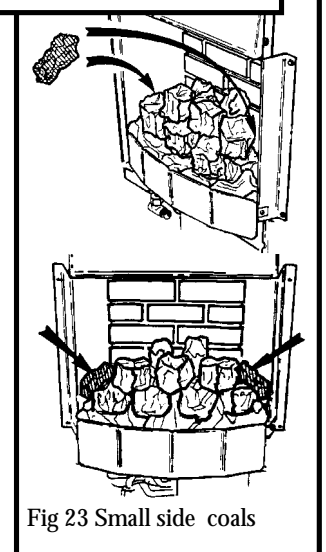

Fig. 23 Small side coals
11.4.3 Place the two remaining small coals alongside the main coals (See figure 23)